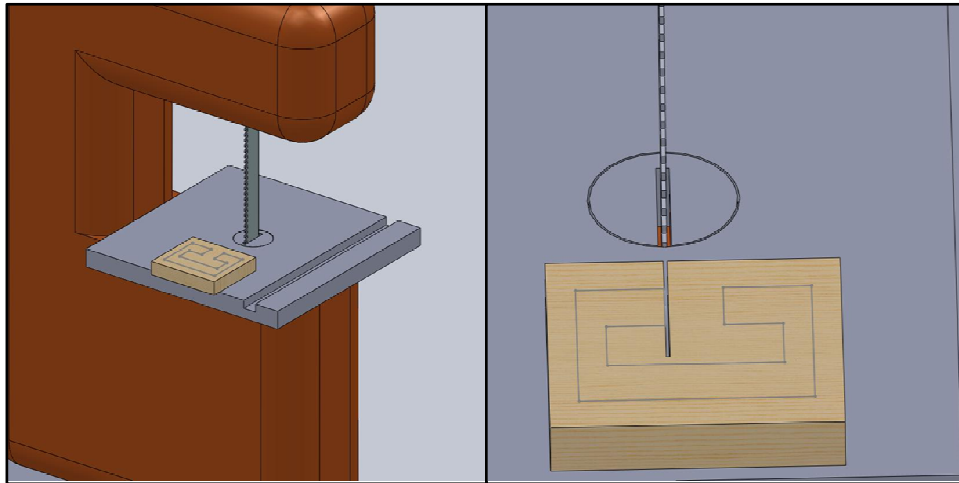

Figure 5: Cut the inside lines first. Make sure to cut on the scrap wood side of the line
- A. Slowly feed the 100 mm section into blade until line is fully cut. See Figure 5.